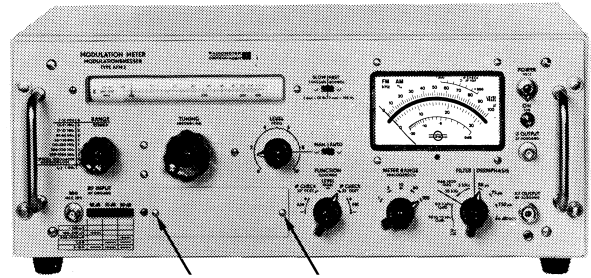

Fig.E5. The arrows show screws and plate to be removed when a plug-in unit is to be used.
- 1) Remove the two screws and the plate covering the receptacle in which the Crystal Oscillator Unit is to be placed (see Fig.E5).
- 1) Remove the two screws and the plate covering the receptacle in which the External-Oscillator Amplifier is to be placed (see Fig. E5).